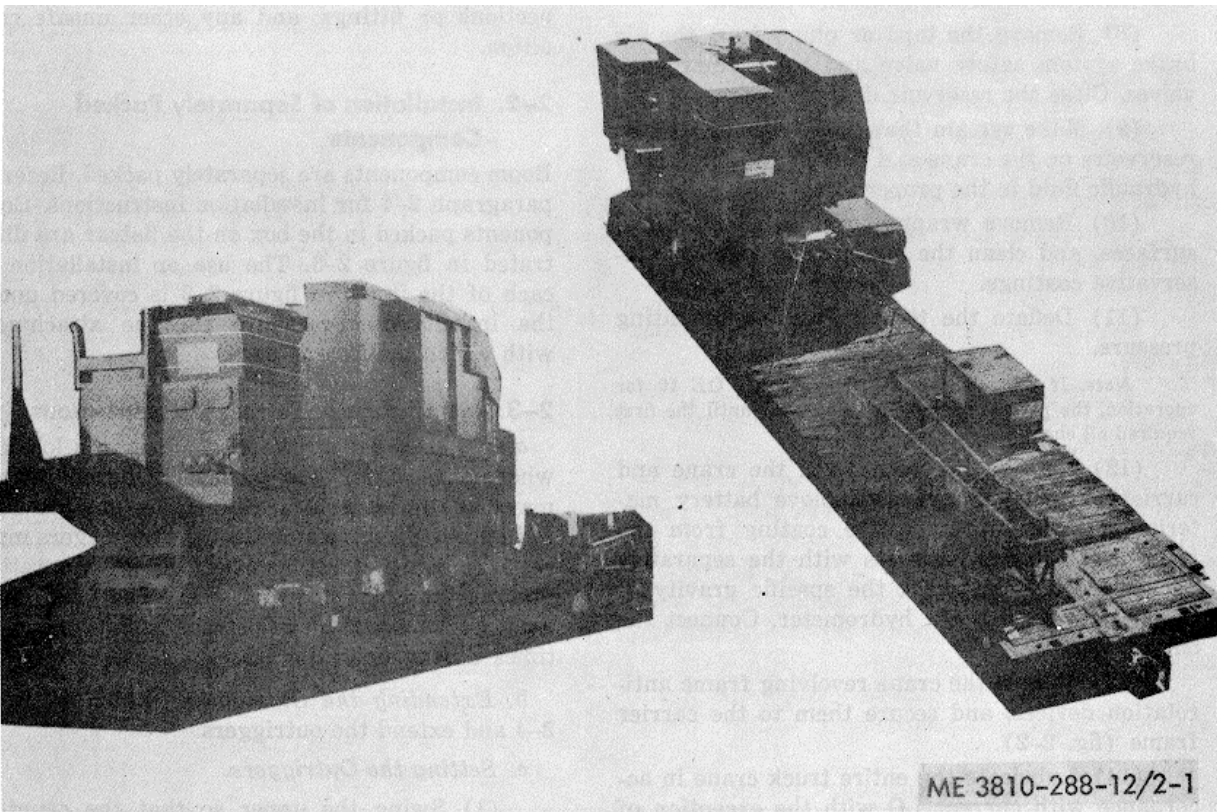

Figure 2-1. Materials used for shipping protection.
(1) Refer to figure 2-1 and remove all materials used to protect the crane and carrier during shipment.
(2) Remove protective wrappings from the operator's seats, headlights, taillights, floodlights, and the faces of instruments.
(3) Make a complete visual inspection of the crane and carrier to see that the required publications, tools, accessories, attachments, and repair parts are with the crane and carrier.
(4) Inspect the entire crane and carrier for missing parts or damage which may have occurred during loading, shipment, or unloading. Inspect the crane and carrier engines, tires, revolving frame machinery, glass panels, and instruments for damage.
(5) Inspect all separately packed equipment for damage.
(6) Report all damage and all missing parts to organizational maintenance.